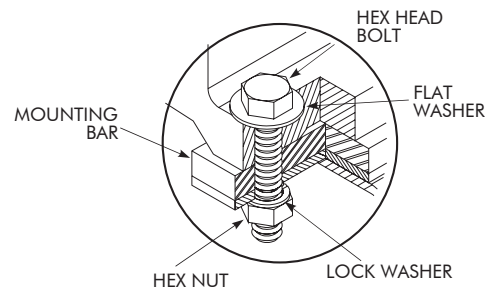

Figure 2B — Bolt Kit Configuration
2. Use the appropriate fasteners to attach the reducer to the baseplate. Reference Figure 2B for bolt kit configuration. Reference Table 1 for correct bolt kit. Reference Table 2 for the proper bolt torque values.